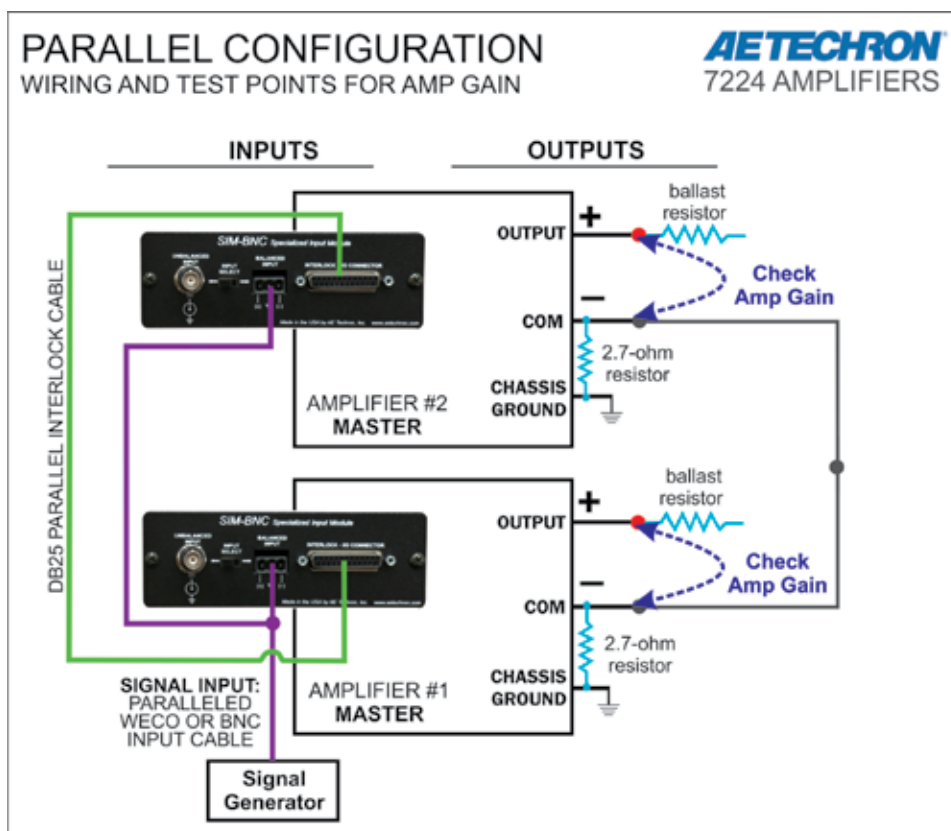

Figure B.2.27 – Wiring and Test Points for Amp Gain Adjustment
- B. Connect a digital voltmeter set to AC volts between the OUTPUT and COM terminals of the first amplifier. See **Figure B.2.27**.